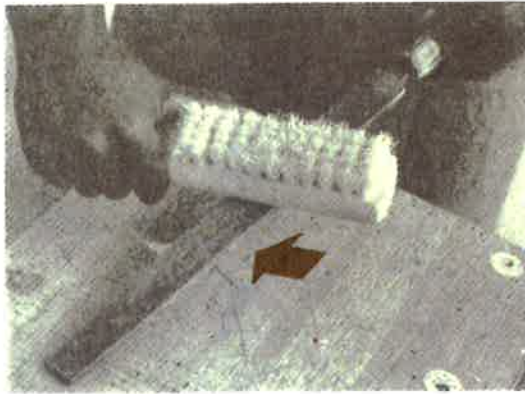

Fig. 14–20. Cleaning the file with a file cleaner.
7. Clean the files with a file cleaner (Fig. 14–20). Cleaning files frequently keeps the cutting edges in better condition.